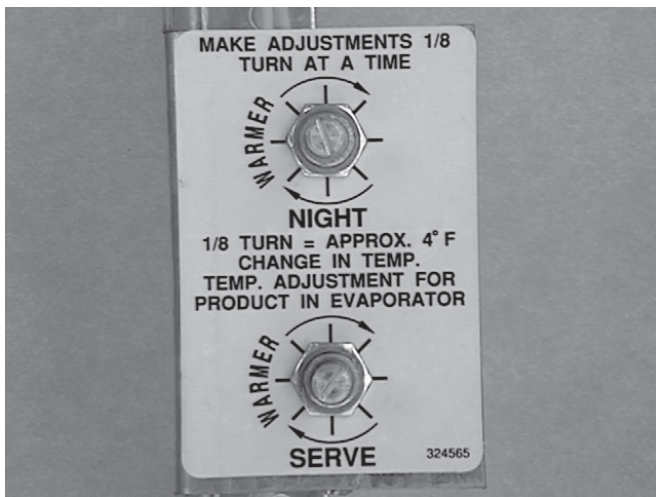

Figure 27. Potentiometer
- C. On air compressor side of pump, locate the long/slender piston rocking arm. The rocking arm downward travel is limited by a stationery cam. On the face of the cam there is an overrun setting indicator plate numbered 3 thru 8 and an adjustment knob (see Figure 27).